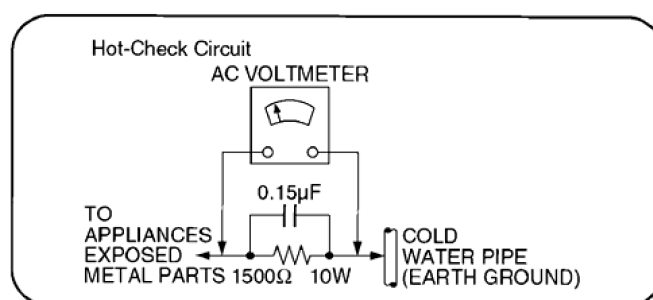

Figure 4.1
4.1.2. Leakage Current Hot Check (See Figure 4.1)